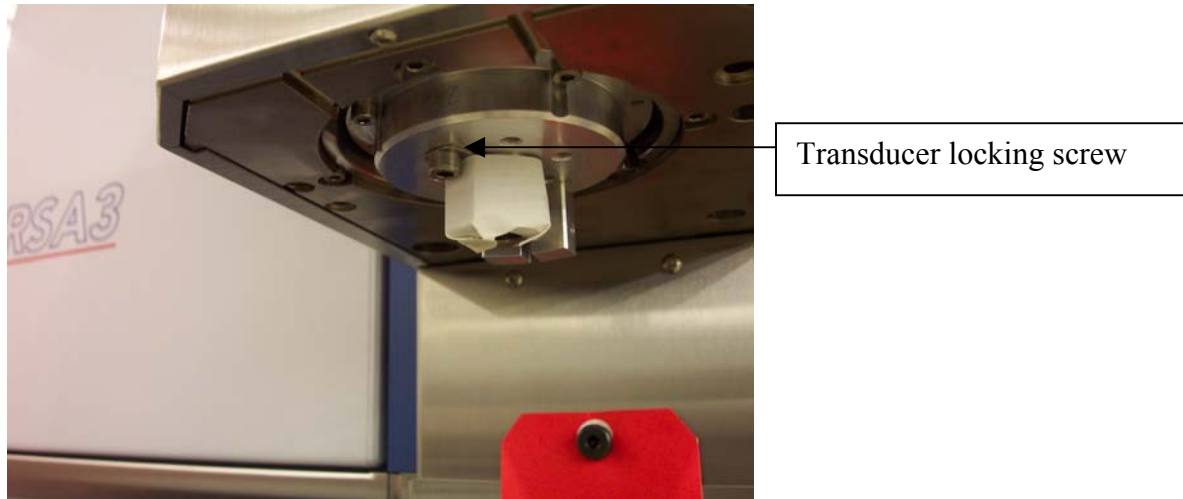

Figure 3
- 8.) Lock the transducer (Figure 3). Use locking plate and screw; tighten screw with 4mm Allen key.